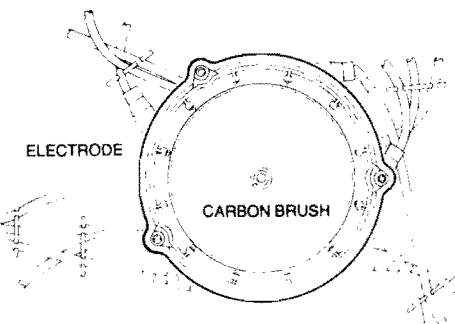

Fig. 30 Checking the distributor cover and H.T. cables
**TEST 10. Distributor Cover and H.T. Cables (Fig. 30)**